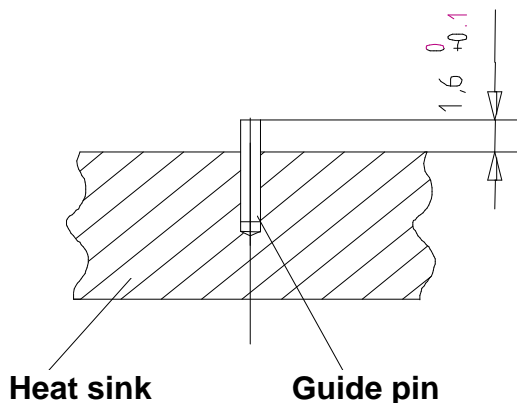

Fig. 2
- ◆ Centre the semiconductor with an guide pin. See fig.2.